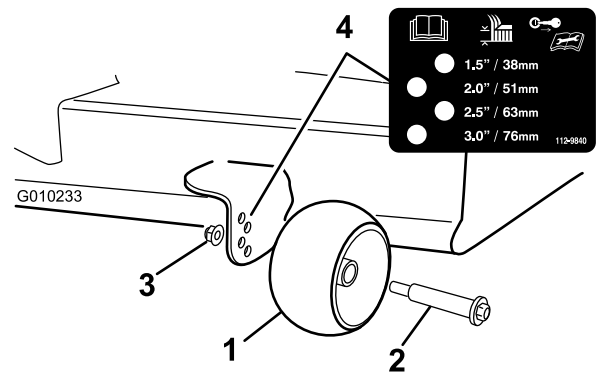

Figure 20
3. Adjust the anti-scalp rollers as shown in Figure 20 to match the closest height-of-cut position.